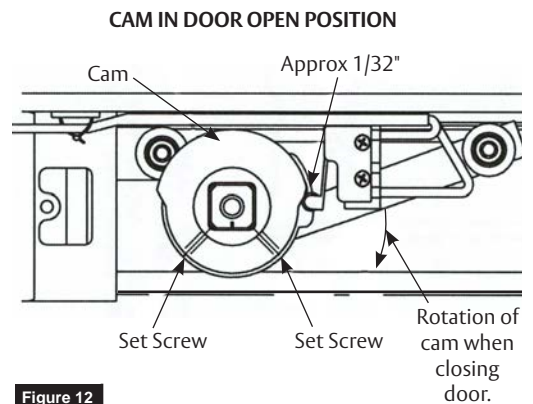

Figure 12
3. Open door to desired holding position and hold open with door stop. Rotate cam until switch roller is on lower section of cam and approximately 1/32" from bottom of incline. (Figure 12) Cam should be positioned so when door closes, roller on switch will ride up incline of cam operating the switch. Tighten on set screw in cam with hex key and pull door closed.